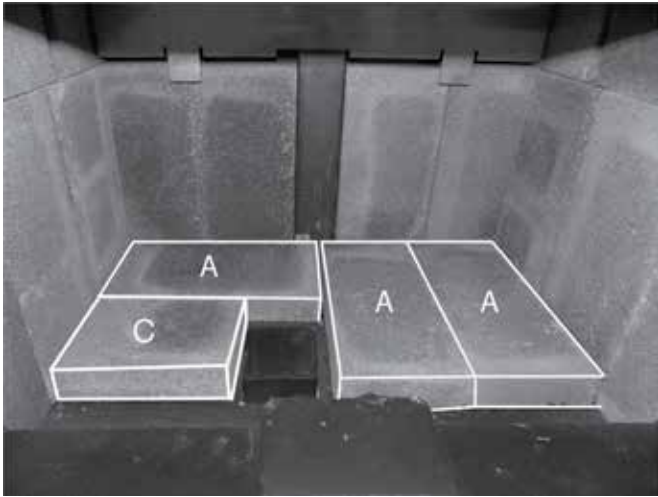

Figure 22: Floor bricks in place.
5. Place two "A" firebricks on the firebox floor as shown. Place a third "A" firebrick against the rear wall as shown in (Figure 22).
6. Place the "C" firebrick so that it sits beside the ash dump, against the left-hand side wall and the "A" firebrick located directly behind the ash dump (Figure 22).